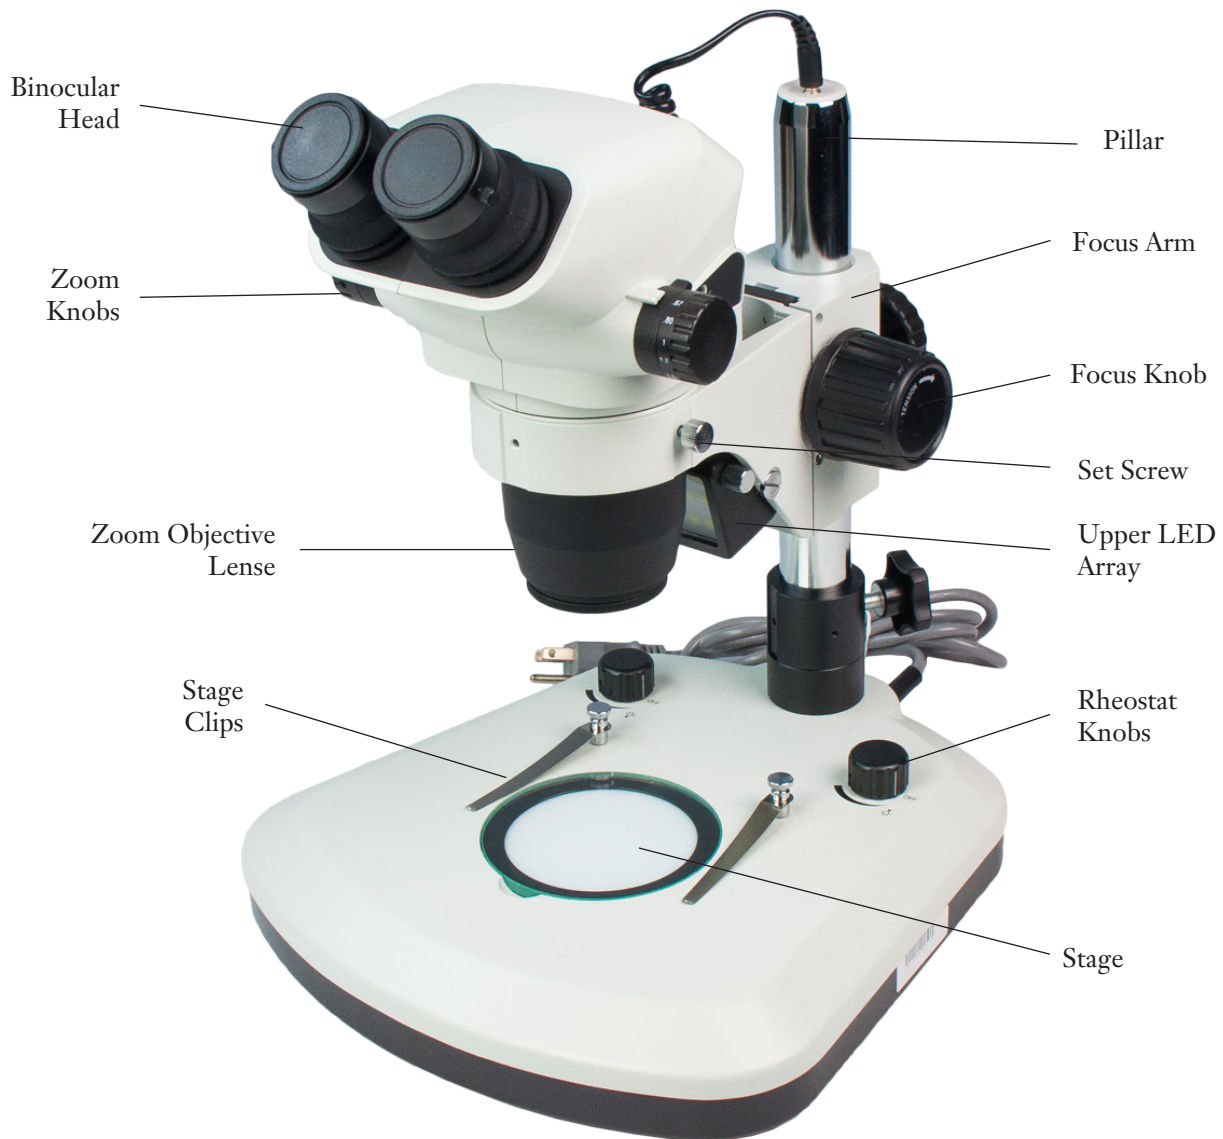

**Figure 1.**
*Note:* Refer to Figure 1 when assembling the stereoscope.